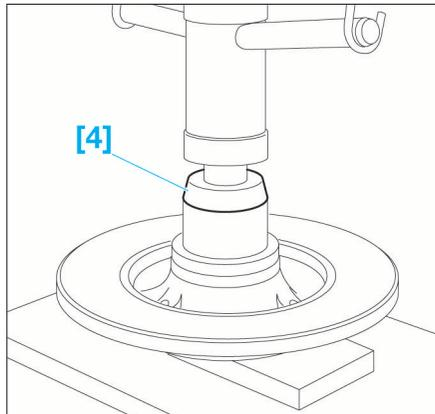

FIG. 32
- Poser l'outil [4] (mandrin ref. 9501-T.D5) (Fig.32).